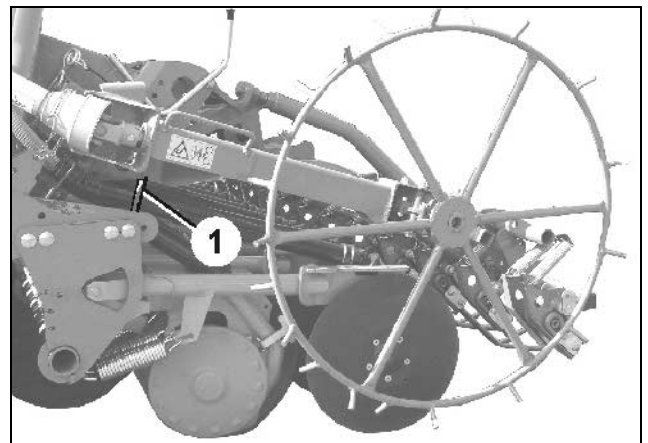

Fig. 25
- Lift the star wheel, pull outwards and deposit on the rest (Fig. 25/1).